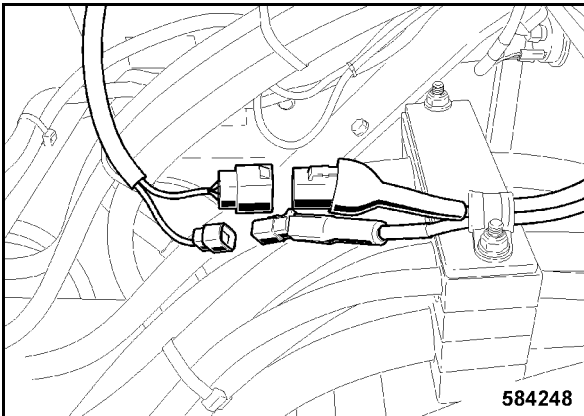

Fig. 228
- Connect the plug connection of the air conditioning system (Fig. 228).